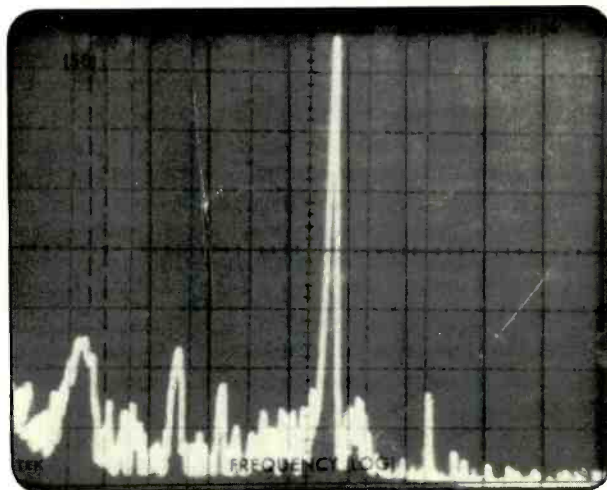

Fig. 3: Teac X-10R: Center spike is 1 kHz recorded tone as analyzed during tape playback. Peak at right is third-order distortion component.
Fig. 3: Toshiba PCM-Mark II: Lower trace is playback of 100 Hz square-wave from (A) reel-to-reel analogue tape deck and (B) from PCM-Mark II system. Upper trace is input in both cases.
Fig. 3 displays the third-order distortion component observed during playback of a 1-kHz recorded signal (center spike). Here we can see that the third-order